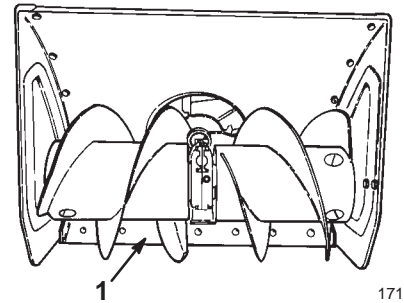

Figure 17
2. Move the snowthrower to a flat surface and ensure that the scraper (Fig. 17) is parallel to the ground. If it is not, adjust the scraper; refer to Adjusting the Skids and the Scraper on page 21.